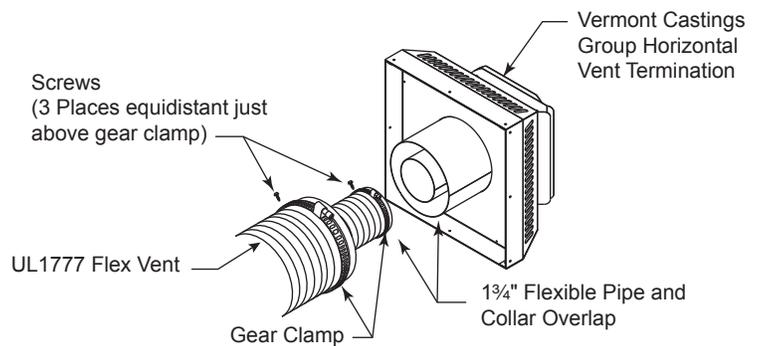

Figure 45 - Typical Horizontal Flex Vent Installation
1. Connect the 5" flexible vent to the horizontal termination as in *Figure 45*.
2. Connect the 8" flexible vent to the termination ring as in *Figure 45*.
3. Review *Figure 45* for proper overlap and clamp placement.
5. Use only listed and approved terminations and accessories, installed per the termination instructions and *Figure 45*.